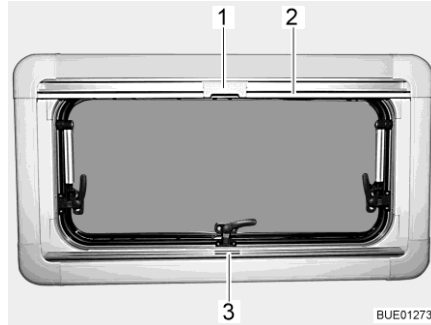
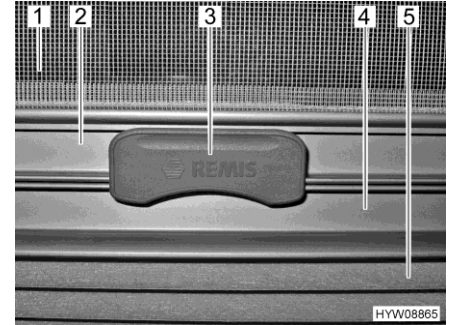

Fig. 53 Hinged window
Fig. 54 Catch
Roman shade The Roman shade (Fig. 54,5) is located in the lower blind box.
- Seize the Roman shade by the centre of the holding bar (Fig. 53,3 and Fig. 54,4), pull it from the bottom to the top and release it at the desired height. The Roman shade will stay at this height.
Insect screen The insect screen (Fig. 54,1) is located in the upper blind box.
- Pull the insect screen down by the holding bar (Fig. 53,2 and Fig. 54,2), until it touches the holding bar of the Roman shade (Fig. 54,4).
- Clip the catch (Fig. 53,1 and Fig. 54,3) on the insect screen into the holding bar of the Roman shade. When the catch is locked, the Roman shade and the insect screen can be adjusted together.
- Push the catch (Fig. 54,3) on the insect screen upward.
- Move the insect screen back slowly on the holding bar (Fig. 53,2).